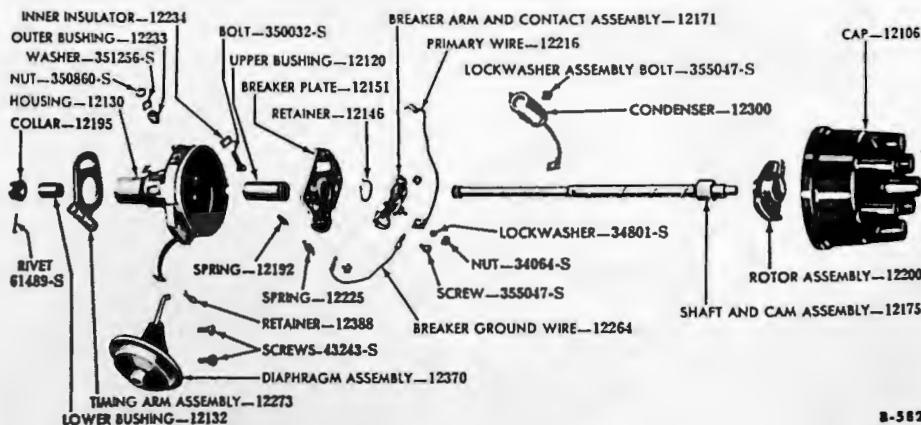

Figure 8—H Series Distributor, Disassembled
(2) **H SERIES DISTRIBUTOR.** The only differences in construction between the H and R series distributors are in the housing and the drive shaft (fig. 8).